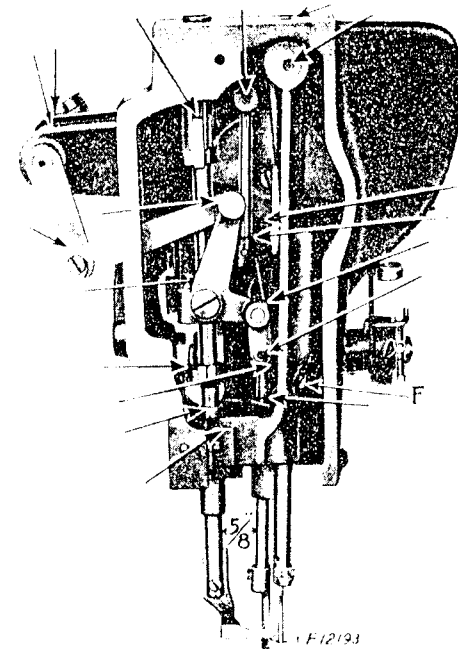

Fig. 4. End View of Machine Showing Oiling Points
In case the needle bar is not correctly set, loosen the needle bar connecting stud pinch screws(F, Fig.4) and place the needle bar in correct position as directed above, then retighten the screws (F).
The distance between the vibrating presser bar and lifting presser bar, after turning the feed regulating spindle head so that there is no feed movement of the needle bar, should be 5/8 inch as shown in Fig. 4.